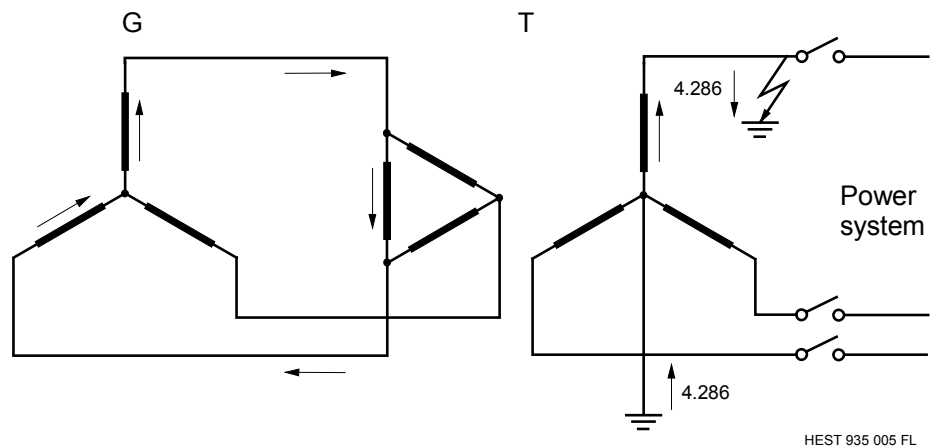

Fig. 4.1 E/F on the HV system supplied by the generator
- a) the generator and step-up transformer reactances when the HV circuit-breaker is open (see Fig. 4.1).